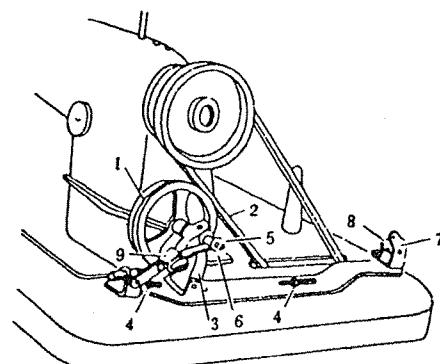

Fig. 3
After mounting the machine and belt, install the bobbin winder. Align bobbin winder pulley 1 with the outside of belt 2(see Fig.3), have a suitable clearance between pulley and belt, and keep the winder pulley in close contact with
4.4. Winding bobbin thread (see Fig. 3)